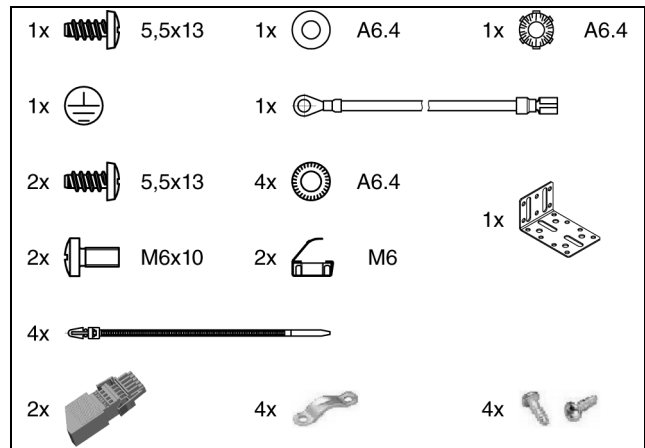

Fig. 1: Accessories provided, 16 A variant
- Accessories provided (see figs. 1 and 2)